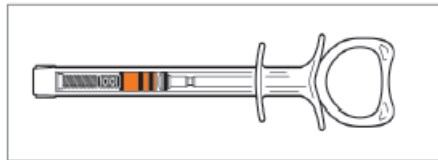

Figure 2 - Plunger all the way in
- Begin with the Inflation Syringe plunger all the way in (Figure 2).
- While still pointing the syringe tip towards the ceiling, push the plunger all the way in (Figure 2), to purge all air and fluid from the syringe.